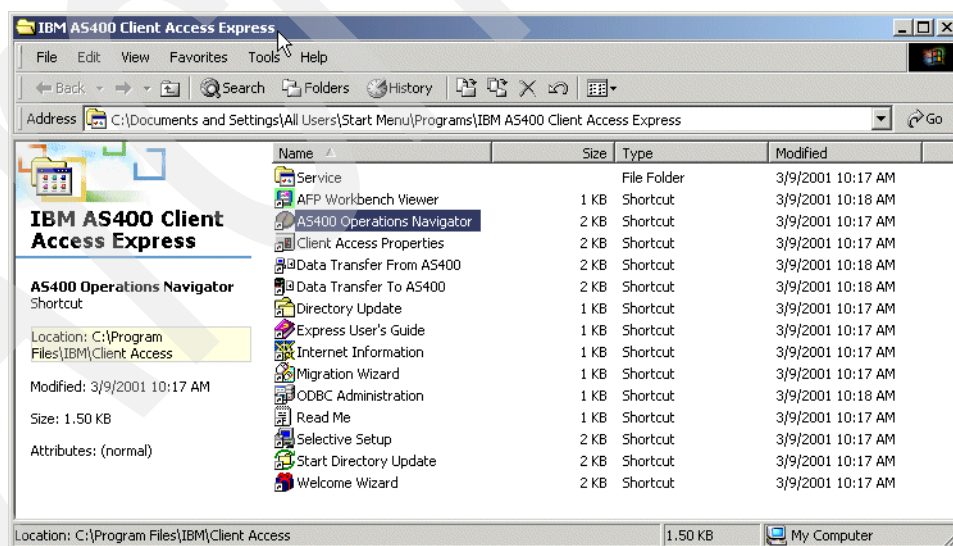

Figure 113. Starting Operations Navigator
1. Select the Client Access icon on your desktop and select Operations Navigator as shown in Figure 113.